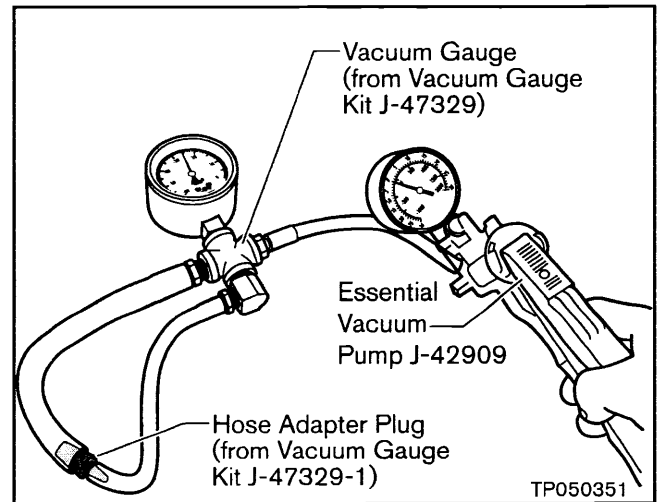

Figure 16
- a. Connect the large and small Tube (from the LH side of the gauge) to the Hose Adapter Plug (see Figure 16).
- b. Connect the remaining small Tube to a "known good" Vacuum Pump (see Figure 16).